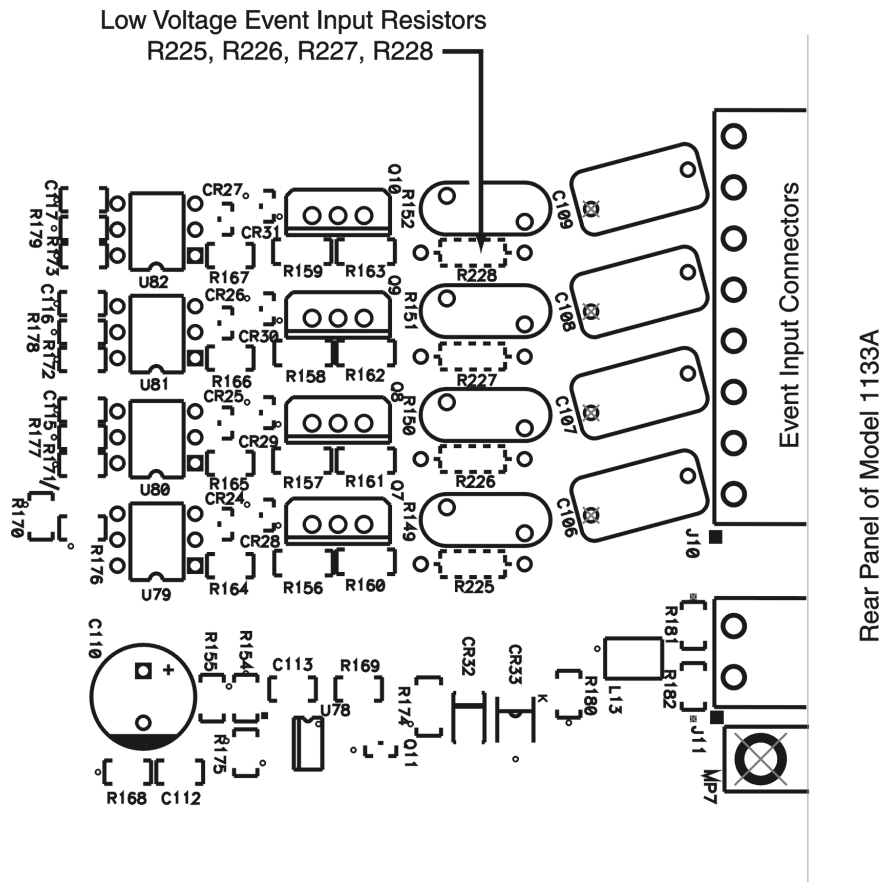

Figure 14.1: Event Input Resistor Settings
All of the four event inputs on the 1133A Power Quality / Revenue Standard are configured for an input voltage range of 24-240 Vdc. For the standard setting NONE of the four optional resistors need to be installed, i.e. R225, R226, R227, R228 (See Figure 14.1).
7. Locate the four resistor positions (R225, R226, R227, R228) near the Event Input connectors. See Figure 14.1.